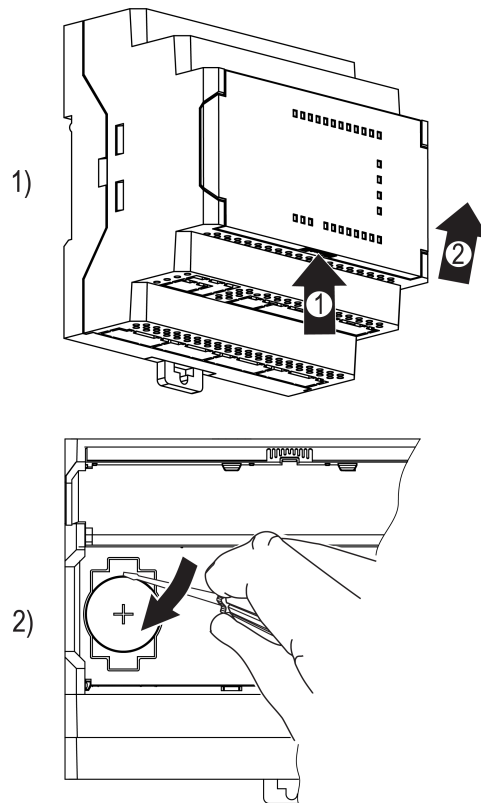

Fig. 8.1 Battery replacement
1. Holding on to the ribbed area (see Fig. 8.1, 1, arrow 1), open the front cover (arrow 2).
Pick up the battery on the right side with a screwdriver and, while holding it, pull the battery out of its holder (see Fig. 8.1, 2).